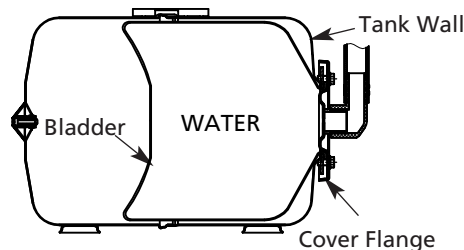

Figure 22A Proper Installation and Seating
- Clean sealing surface and groove of cover flange; place on tank (See Figure 22A).
- Bladder completely empty–new cycle ready to begin (Figure 22A).